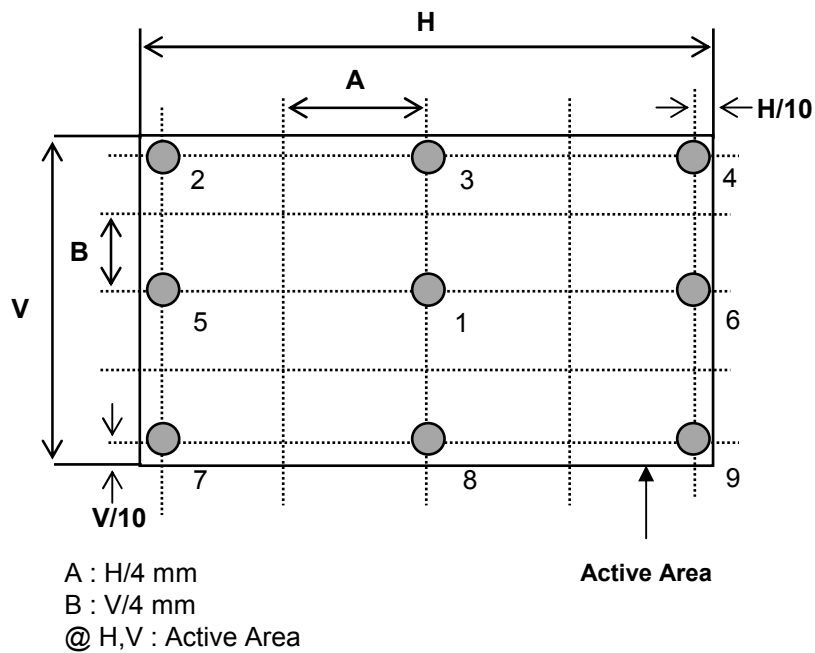

FIG. 2 Measure Point for Luminance
2. **Surface luminance** is luminance value at No.1 point across the LCD surface 50cm from the surface with all pixels displaying white. For more information see FIG 2.